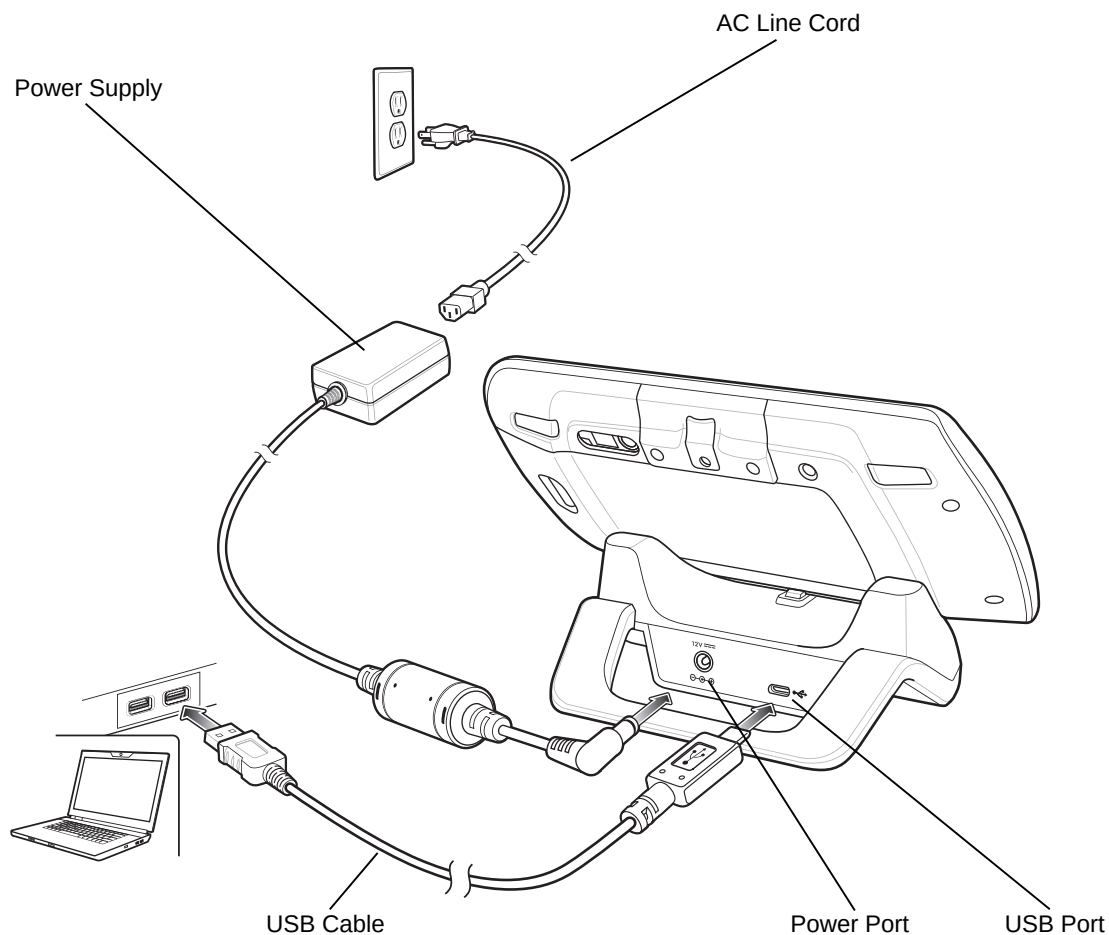

Figure 2-1 Single-slot USB Docking Cradle Power and USB Connections
1. Set up the cradle as shown in Figure 2-1.